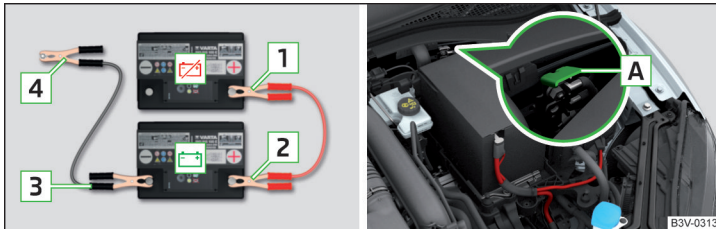

Fig. 237 Jump-starting: - discharged battery, - current-giving battery / ground point of the engine with the START-STOP system
- For vehicles **with** the START-STOP system, secure the clamp **4** to the ground point of the engine **A** » Fig. 237.